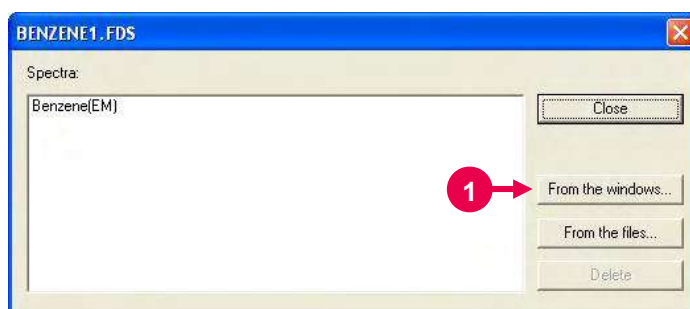

Fig. 7-18
- (1) Select the Overlay command from the Data menu.
- (2) A dialog box as in Fig. 7-18 will appear.
(Refer to ① in Fig. 7-18.)